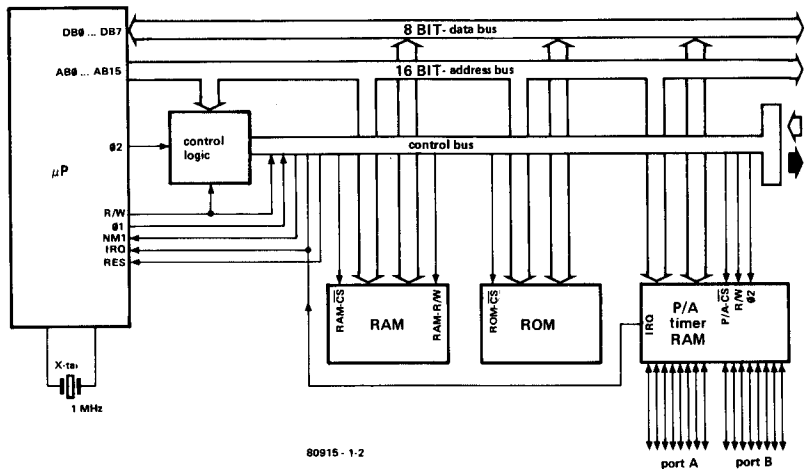

Figure 2. A detailed version of the block diagram in figure 1, this time with a specific computer in mind: the Junior Computer.
After looking at the block diagram of a 'basic' microcomputer, we move on to that of the Junior Computer (figure 2). First, the three buses. The address bus is formed by sixteen lines and is independent of the other two buses (the data bus and the control bus). With 16 lines, the CPU is capable of addressing up to  $2^{16}$  or 65,536 different memory locations. Thus, more than sixty-five thousand (or '65 k') different pieces of data are at the computer's 'fingertips' (provided, of course, this amount of memory is available).
Memory comes in two main types, which is why there are two memory blocks in figure 2. One is RAM and the other is ROM. There are also two types of data: permanent (like a system *monitor* program) and temporary (most of the programs entered by the user). Permanent data therefore will only ever be 'read', whereas temporary data has to be both 'read' and 'written'. When talking about memory, the terms 'reading' and 'writing' refer to the act of seeing what is in memory and entering data into memory respectively. Memory that can only be read is called ROM or Read Only Memory. Where a system monitor program is used it is invariably stored in ROM. Memory that can be written into as well as read from is called RAM, for Random Access Memory. RAM is used to store such things as intermediate results and programs which are under development. Random access memory is therefore often called work memory. The signal that controls the bi-directional data bus buffer mentioned earlier, also tells the memory whether it is going to be read from or written into, hence the term, READ/WRITE.
The block marked I/O maintains contact between the computer and the outside world. In figure 2 it is called PIA or Peripheral Interface Adapter. Just as with RAMs, bi-directional data transfer is necessary. The 8 bit data bus is passed out as two bundles of eight conductors each, through port A and port B. The active port is determined by the address bus. Each individual line can operate independently of the other 15 at any given moment, as an input or as an output.
Data can also be held at the PIA for short periods of time (notice that the RAM is in the same block as the PIA in figure 2). This facility can be used when the CPU has to do something else at the same time as data is being transferred through one of the ports. Information from either direction may be stored in this memory, but only from one direction at a time. The address bus informs the PIA which port, which direction, and whether or not to hold out-going or in-coming information.
There are also three buses that go to the outside (the three arrows pointing right in figure 2) but these are for future expansion of the system rather than communication with the outside world. As far as the JC is concerned, the outside world is everything beyond the keyboard and display.
There are three other signals shown in figure 2, namely RES, IRQ and NMI. RES is the reset signal and is virtually self-explanatory. This signal tells the Junior Computer to go to the 'start' condition. The other two, IRQ (Interrupt ReQuest) and NMI (Non-Maskable Interrupt), are used to modify or step through the program while it is being run. Information then comes from the outside to tell the computer what to do next. This feature can be useful when the computer is used with a relatively slow device (a human for instance). The computer can manage over half a million operations per second whereas the human may only be able to manage 3 or 4 during the same period. Once the interrupt is finished the computer will continue with the main program from where it left off. In the event that both of the interrupt functions are used at the same time, they are given a priority which is determined by the program. It should be noted that the interrupt request can be controlled by the program whereas, as its name implies, the non-maskable interrupt cannot.
A programmable timer can also be seen in the PIA block in figure 2. More attention will be given to this in chapter 5 (Book 2).
**Figure 3.** A further development of the diagram in figure 2: communication with the outside world is now possible with the aid of a keyboard to input (I = Input in I/O) data and a display showing six hexadecimal figures to output (O = Output in I/O) data.